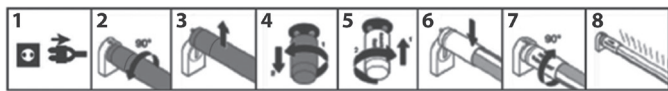

Fig. 1
- In the event of a light fixture with a choke coil**, to install the LED tube it is sufficient to simply remove the standard fluorescent light tube, remove the light tube starter and in its place, simply install the supplied "LED driver" and then just install the LED tube (this form of installation can be performed by any user themselves without electrical qualifications), see fig. 1.
- On these types of light fixtures, it is possible to directly replace a standard fluorescent light tube with an LED tube. Simply remove the fluorescent tube starter with the electrical power disconnected and replace it with the supplied „LED driver“ according to the steps described in steps 1 to 8 in fig. 1. This replacement may be performed by a person without the respective electrical qualifications.
Description of steps 1-8 in fig. 1